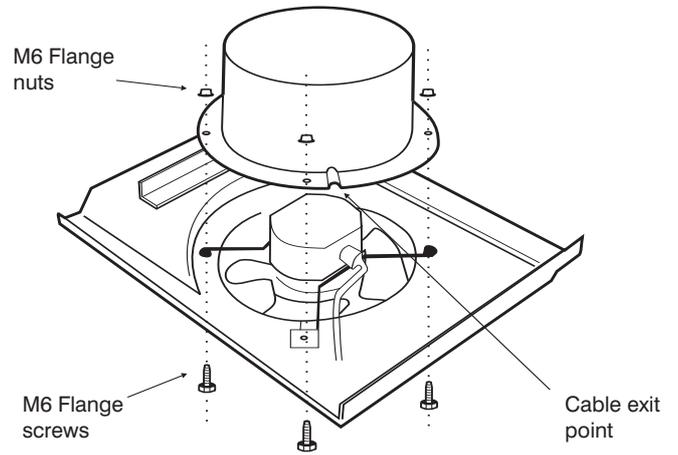

Figure 5. - View from underside of fan
2. Place the inlet spigot in position. Ensure that the lead recess in the spigot is positioned as shown and the electrical cable is not pinched. (See *Figure 5*.)